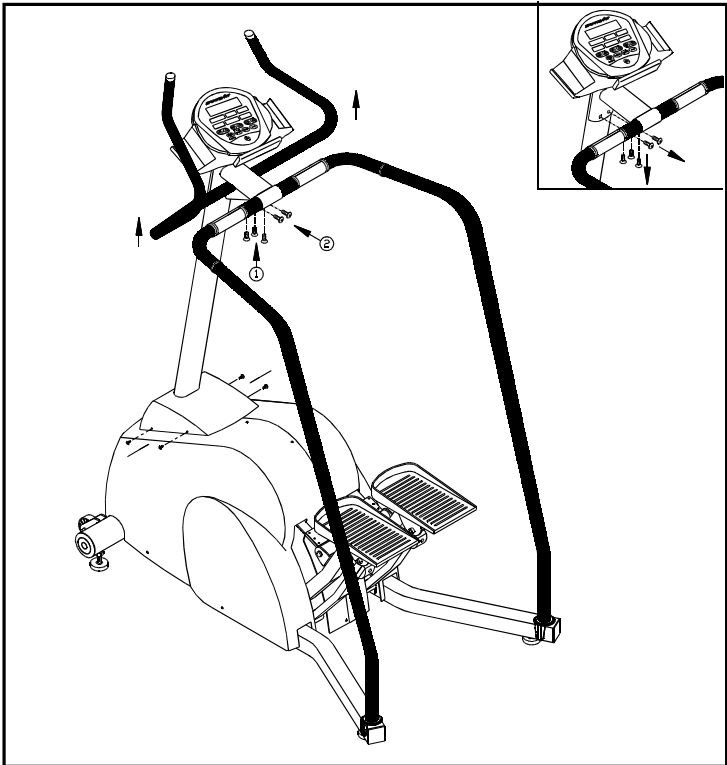

Fig.5
- Five 1/4" x 20UNC x 3/4" bolts - center handrails (Fig.5)
- Four 4 x 12 bolts - post shroud (Fig.5)
8. Loosen five screws to assemble the upper handrail. (see Fig.5)